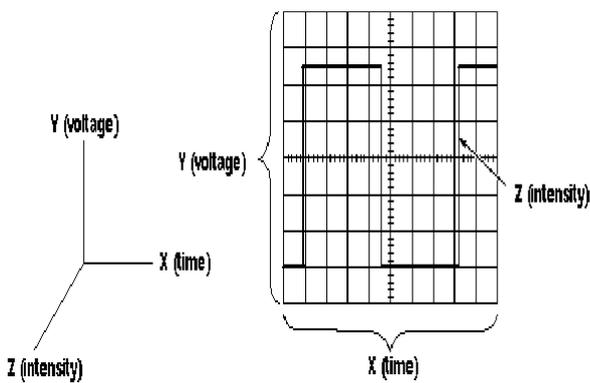

Figure 1: X, Y and Z Components of a Displayed Waveform
An oscilloscope or scope is a graph- displaying device that graphs voltage versus time of an electrical signal.. An oscilloscope is an analog device which detects whether a signal is high or low but the signal’s exact voltage.In most applications the graph shows how signals change over time: the vertical (Y) axis represents voltage and the horizontal (X) axis represents time. The intensity or brightness of the display is sometimes called the Z axis. (See Figure 1.) This simple graph can tell you many things about a signal. Here are a few: You can determine the time and voltage values of a signal.
- You can find out how much of a signal is direct current (DC) or alternating current (AC).